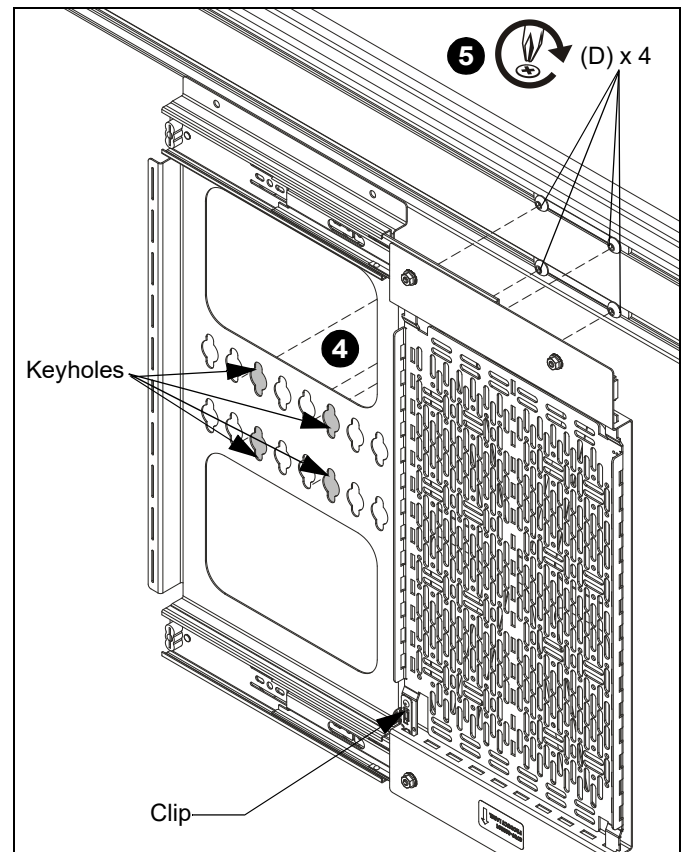

Figure 6
**CAUTION:** The storage panel must be mounted with the clip at the bottom. (See Figure 1) and (See Figure 6)
4. Hold the storage panel (G) over the four button head screws (D) and lower the storage panel keyholes over the screws. (See Figure 6)